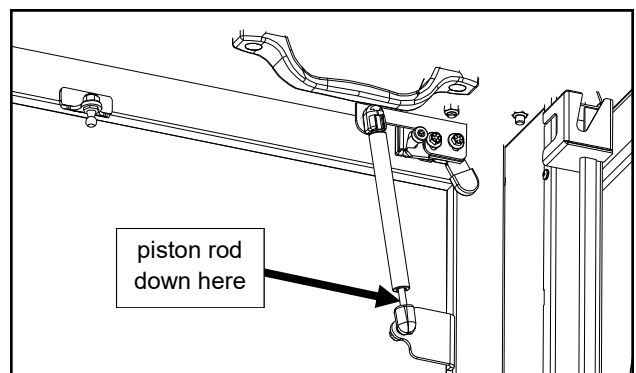

Fig. 13.3 (roof gas shock installation)
13.3 Disengage the roof latches, manually lift the roof, and install the gas shocks. See fig. 13.3. Note: Orient the gas shocks so that the piston rod is pointing down for best, continuous seal lubrication and longest gas shock life.